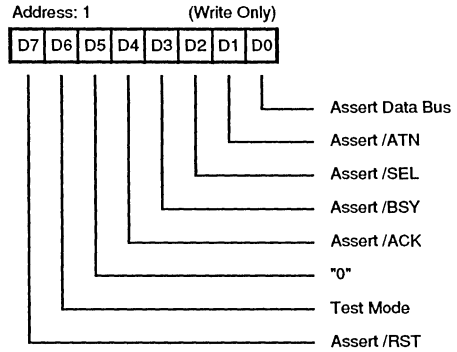

**Figure 19. Input Data Register**
**Input Data Register.** *Address 6 (Read Only).* The Input Data Register (Figure 19) is a read-only register that is used to read latched data from the SCSI Bus. Data is latched either during a DMA Target receive operation